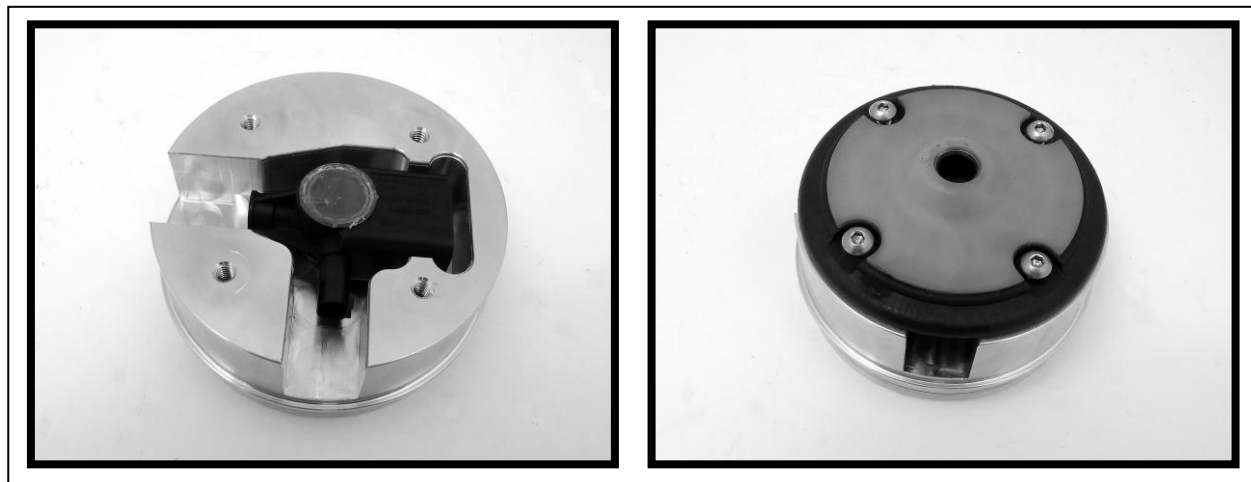

FIGURE 10-9
3.0 INSTALL SOLENOID IN NEW TOP MOUNT, AND REINSTALL CAP WITH PROVIDED FASTENERS. (FIGURE 10-9)